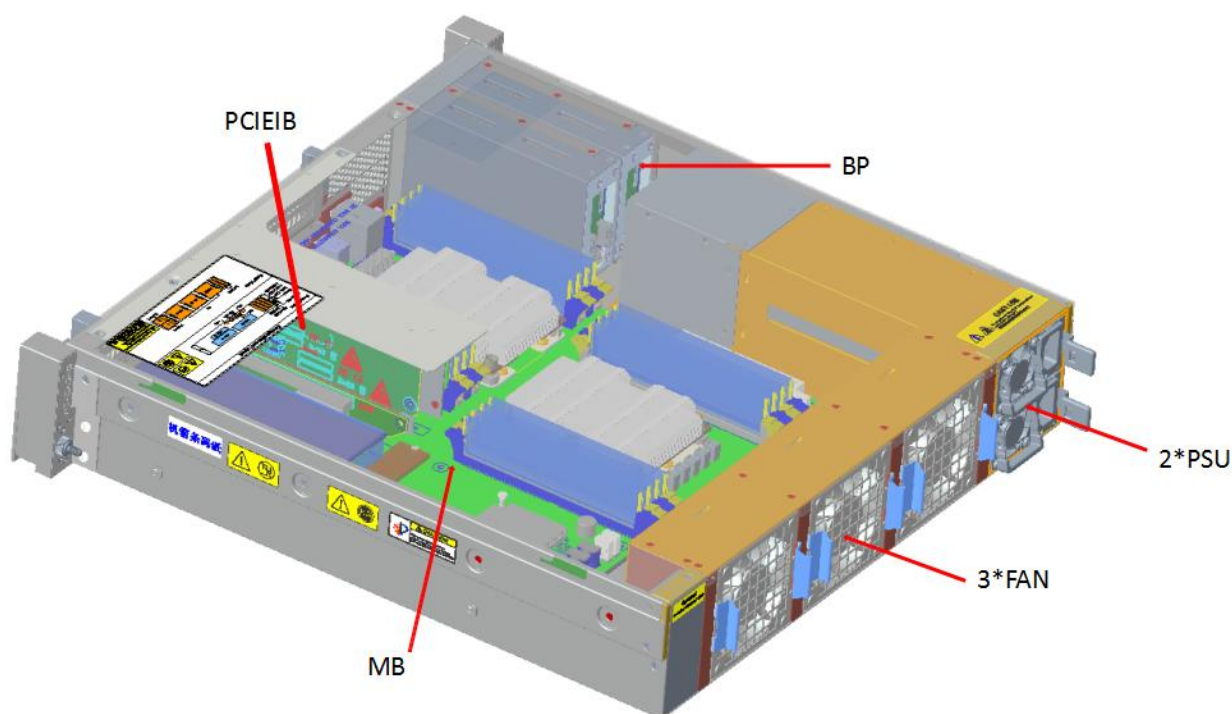

Figure 1.1
The **MSY201-D04R** barebone component board mainly includes the motherboard (MB), the backplane (BP), and the PCIE interface board (PCIEIB). The layout of the whole machine is as shown in Figure 1.1: